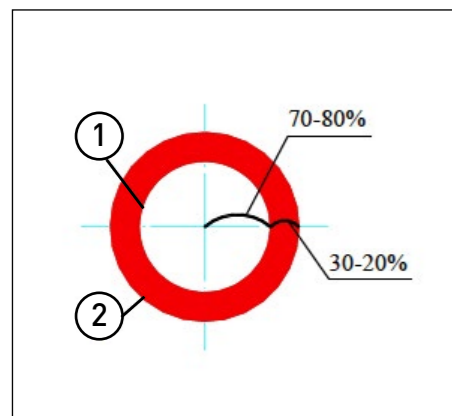

FIGURE 25
4.4.2 Using the aperture diaphragm (Fig. 25)